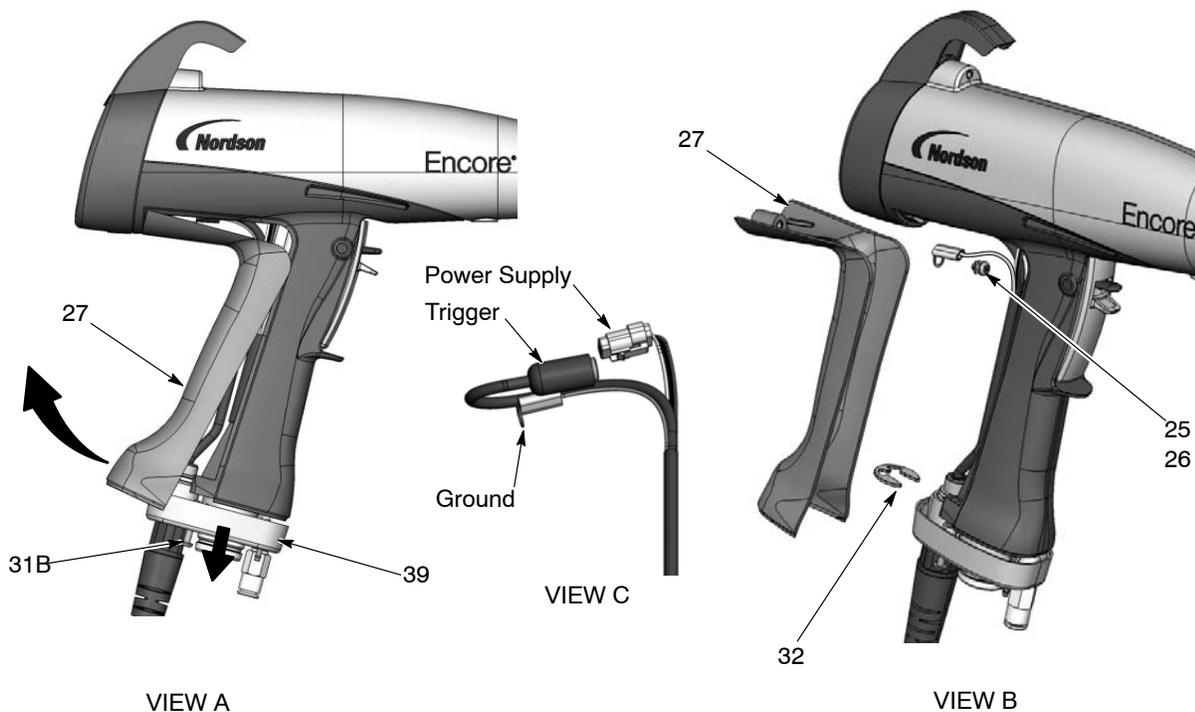

Figure 6-6 Cable Replacement
3. See Figure 6-6, View A. Loosen the two M3 x 20 screws (31B) securing the handle base (39) to the handle.
4. Pull the base away from the handle enough to free the bottom edge of the ground pad (27) from the base.
6. See Figure 6-6, View B. Remove the M3 x 6 screw (25, lock washer (26), and ground terminal from the ground pad.
7. Remove the E-ring (32) from the cable.
8. See Figure 6-6, View C. Pull the cable connectors out of the bottom of the handle. Disconnect the power supply connector from the gun cable connector by inserting a small flat-bladed screw driver in the slot of the power supply connector to release the catch.
1. See Figure 6-6. Feed a new cable through the handle base, then install the E-ring (32) on the cable to hold it in place.
3. Connect the cable terminal to the ground pad (27) with the M3 x 6 screw and lock washer (25, 26).
6. Push the handle base (39) up against the handle and ground pad, and tighten securely the two M3 x 20 screws (31B) in the base.
1. See Figure 6-6. Remove the ground pad as described in *Cable Removal* steps 1–5 . You do not have to disconnect the ground cable from the ground pad.